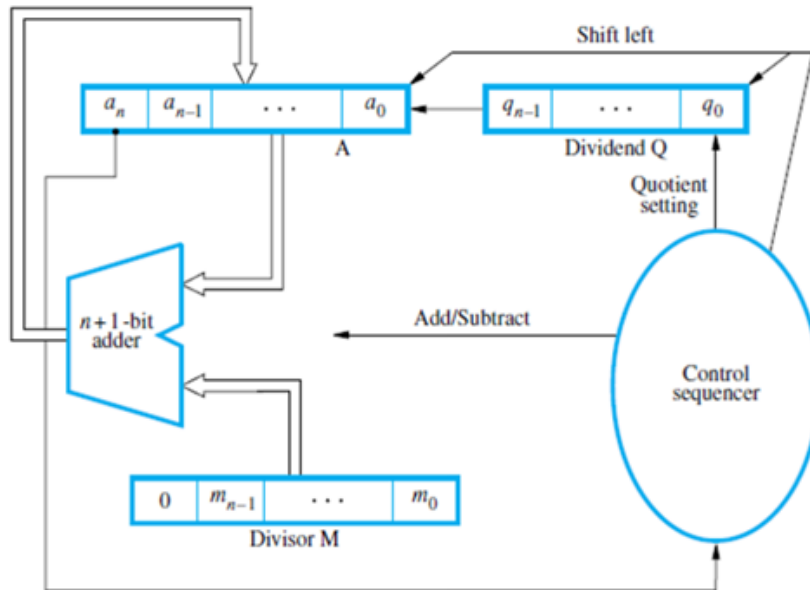

Figure 9.23 Circuit arrangement for binary division.
- If the sign of A is 0, shift A and Q left one bit position and subtract M from otherwise, shift A and Q left and add M to A (Figure 9.23).